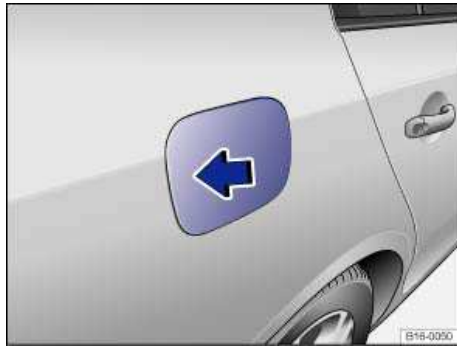

Fig. 134 Right rear side of vehicle: Opening the fuel filler flap.
- Press on the back part of the fuel filler flap ⇒ fig. 134 (arrow) and fold open.